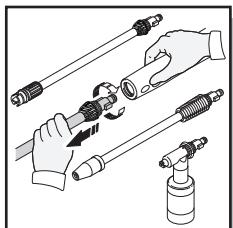

Fig. 24
- Remove lance or detergent bottle from the gun and place in the accessory holder (Fig. 24). Place the gun in the accessory holder on the side of the power washer. Slide lances into the slots provided on the back of the power washer. Make sure to discard any remaining detergent from the bottle. Flush the bottle and nozzle head with fresh water to prevent clogging. Press the detergent bottle into the space between the lance holders (Fig. 25)